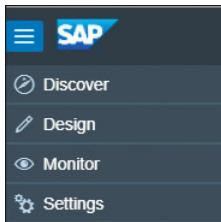

Figure 3.8 Accessing the Integration Content Catalog Main Page
2. Select the **Discover** menu item on the left side of the page to access the Integration Content Catalog, as shown in Figure 3.8.
2. After performing the copy action, the copied package and its artifacts are displayed in your own design workspace. Click on the **Design** section (refer to Figure 3.8) to further enhance the copied content. Figure 3.15 shows that the copied package is now available in the customer's workspace, on the left.
1. Navigate to your design workspace by choosing the **Design** tab, as shown earlier in Figure 3.8.